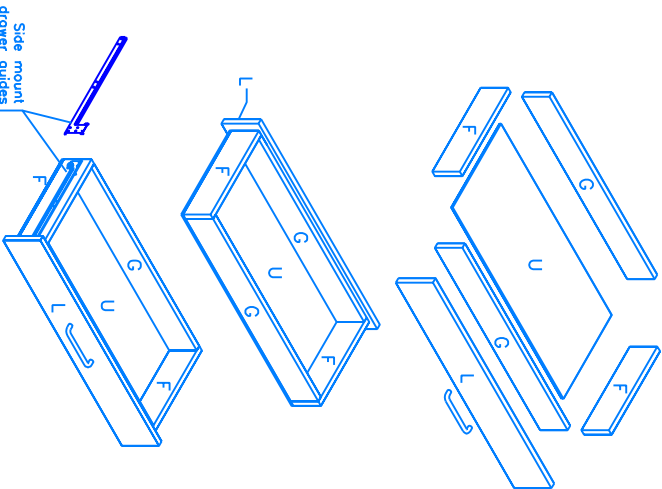

FIGURE 5
- 4) Build a simple box with pieces G and F as shown (Fig. 5). Glue and nail pieces F to G with 1 1/2" finishing nails. Ensure the box is square, glue and nail on piece U with finishing nails. All edges should be flush. Wipe off excess glue. Place four rods of glue on piece L and attach to the bottom. Insert it into the cabinet. Attach piano hinges to countersink through G. Attach the side mount drawer guides to pieces F and W, most hardware comes with instructions, follow them carefully. The drawers are sized to use 1/2" sidemount hardware.